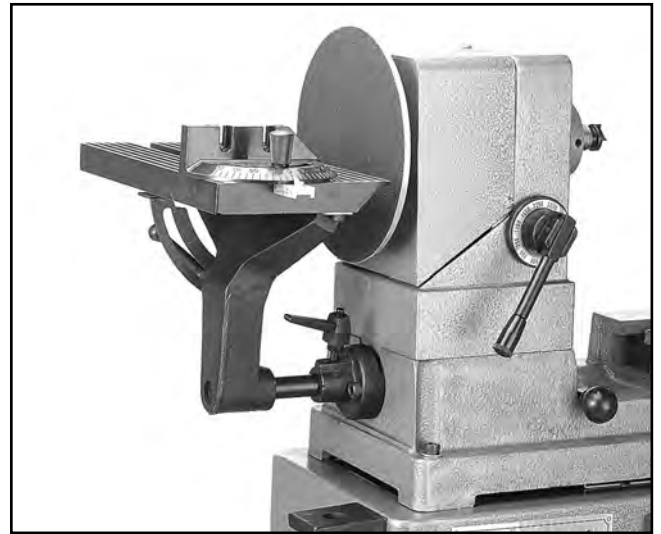

Figure 13. Sanding disc and table.
5. Position the sanding table so that the table is approximately $\frac{1}{16}$ " away from the sanding disc. **See Figure 13.** Always use the side of the sanding disc where the downward rotation will hold the piece down to the table.